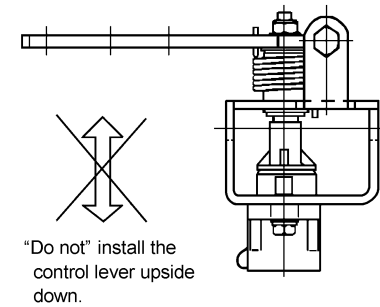

Fig. 2 Installation direction
- Do not install the control lever in the wrong direction as shown in Fig. 2.